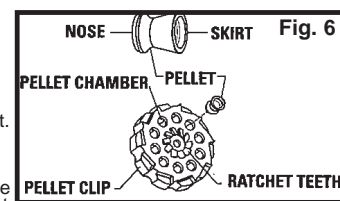

Fig. 6
- Remove the pellet clip and place a .177 caliber (4.5 mm) pellet, nose first, in each pellet chamber. (Fig. 6)